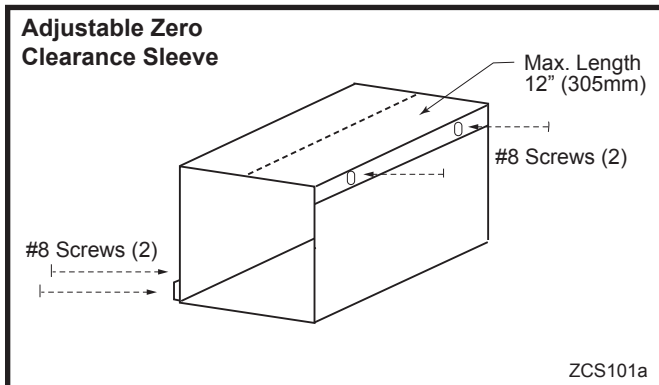
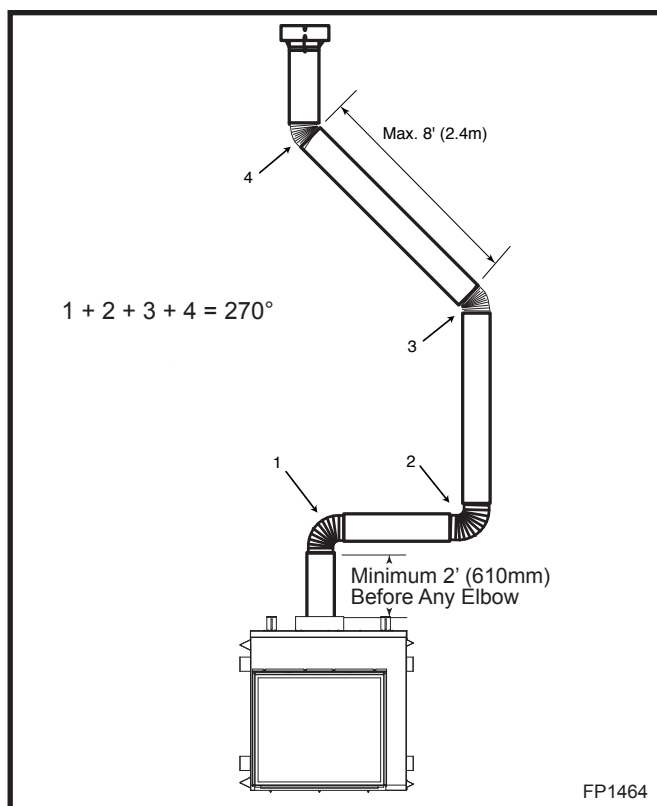

Fig. 19 Adjustable zero clearance sleeve.
Fig. 34 Typical offset application.
Measure wall thickness and cut zero clearance sleeve parts to proper length (MAXIMUM 12"/305 mm). Assemble sleeve using #8 sheet metal screws (supplied). (Fig. 19) Install firestop assembly. (Fig. 34)
- Two sets of 30° or 45° elbows offsets within these vertical installations. From 0 to a maximum of 8' (2.4 m) of vent pipe can be used between elbows. (Fig. 34)